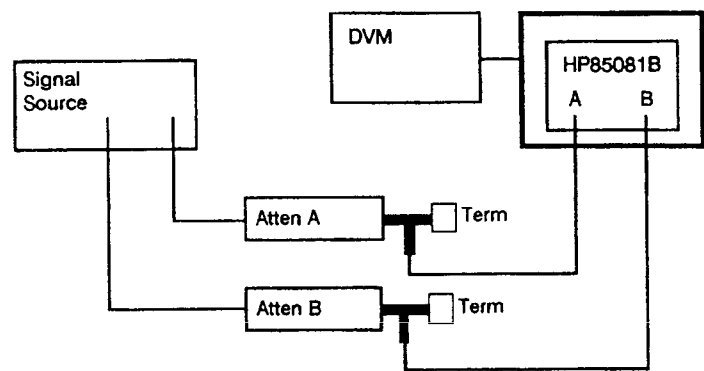

Figure 4-8. Amplitude Accuracy vs Input Level (and rear panel output check) Test Setup
1. Configure the equipment as shown in Figure 4-8.